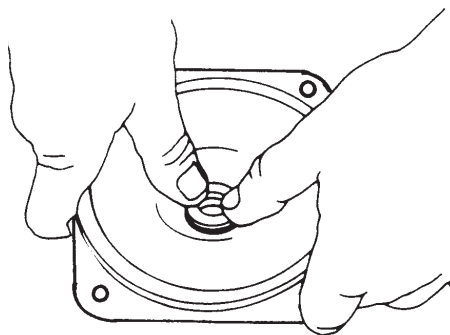

Figure 18 - Press In Seal
6. With thumb pressure, press ceramic seal half firmly and squarely into seal cavity. Polished face of ceramic seat is up. If seal will not seat correctly, remove, placing seal face up on bench. Reclean cavity. Seal should now seat correctly (See Figure 18).